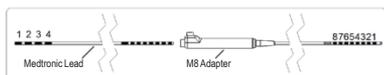

Figure 4: Contact mapping with the Vercise M8 Adapter
12. To program leads, refer to the contact-mapping diagram (Figure 4) and instructions provided in the programming manual provided for your Boston Scientific DBS System. The most distal contact, Contact 1, on the Medtronic DBS Lead maps to Contact 1 on the Boston Scientific programming software and so forth as shown in Figure 4. Please note that Medtronic DBS Leads only have 4 contacts per lead while the Boston Scientific programming software interface displays 8 contacts per lead and therefore contacts 5-8 on the programming interface will display out of range impedance values indicating that there are no electrodes connected.